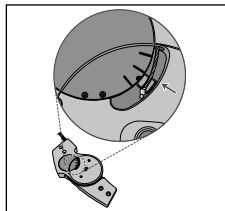

Fig. 10
16. Slide the satellite switch into the Automatic Position (Mode 1) (see Fig. 1) and check within the Function Unit of the joint if the top of the Lever Arm has moved and now is parallel with the center marker (see Fig. 10).